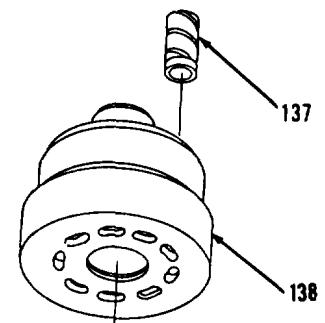

Figure 10-44.
62. Remove nine bearings (137) from barrel (138, Figure 10-44).